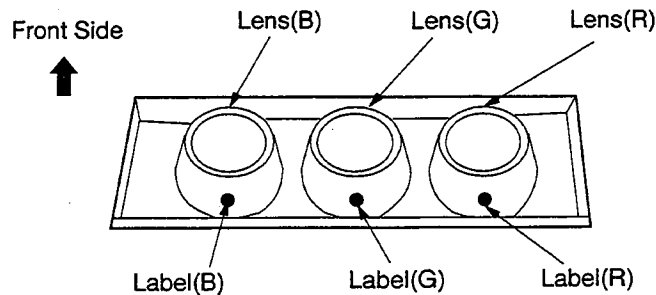

Fig. 6-8
- 1) Position the Lens so that the Labels face the direction shown in Fig. 6-8.